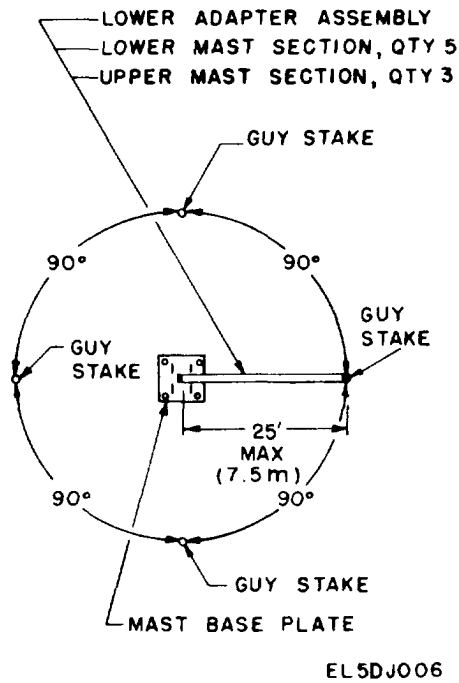

Figure 2-1. Positioning on guy stakes
d. Locate the position of the four guy stake assemblies at a maximum radius of 25 feet (7.62 meters) from the center of the baseplate and a 90 degree angle between stakes (fig. 2-1). The baseplate ribs should be in alignment with two opposite stake